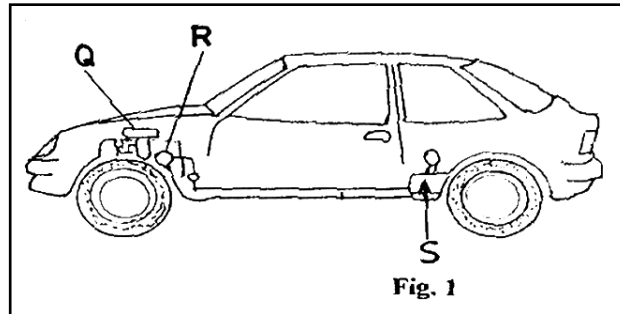

Fig. 1
- (b) **The sketch in fig. 1 shows the fuel system of a petrol-engine vehicle.**